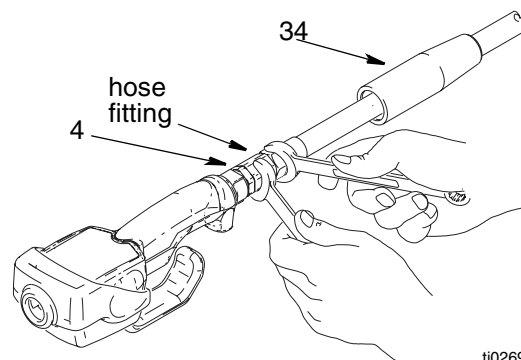

FIG. 5
2. Slide the swivel cover (34) onto the hose, small end first, before connecting hose fitting to swivel (4) (FIG. 5).
3. Apply thread sealant to the male threads of the hose fitting. Thread the hose fitting into the swivel (4) and tighten firmly (FIG. 5).